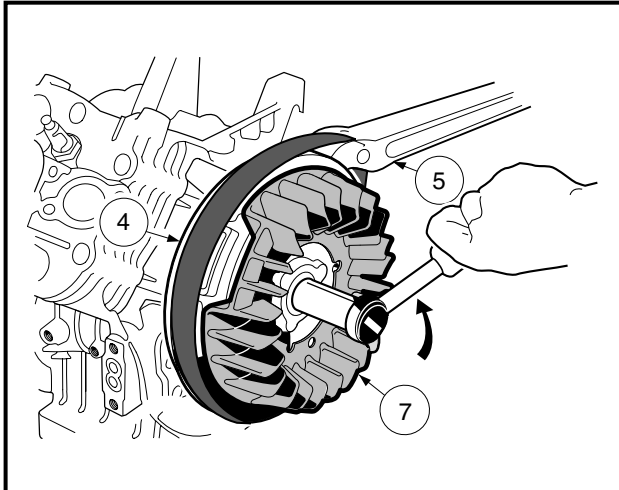

Figure 13-7 Flywheel Nut Removal
3. Hold the flywheel (4), not the fan (7), with a strap wrench (5) and, using a 25 mm socket, remove the flywheel nut (and flat washer) by turning it counterclockwise (**Figure 13-7, Page 13-7**). See following **CAUTION**.